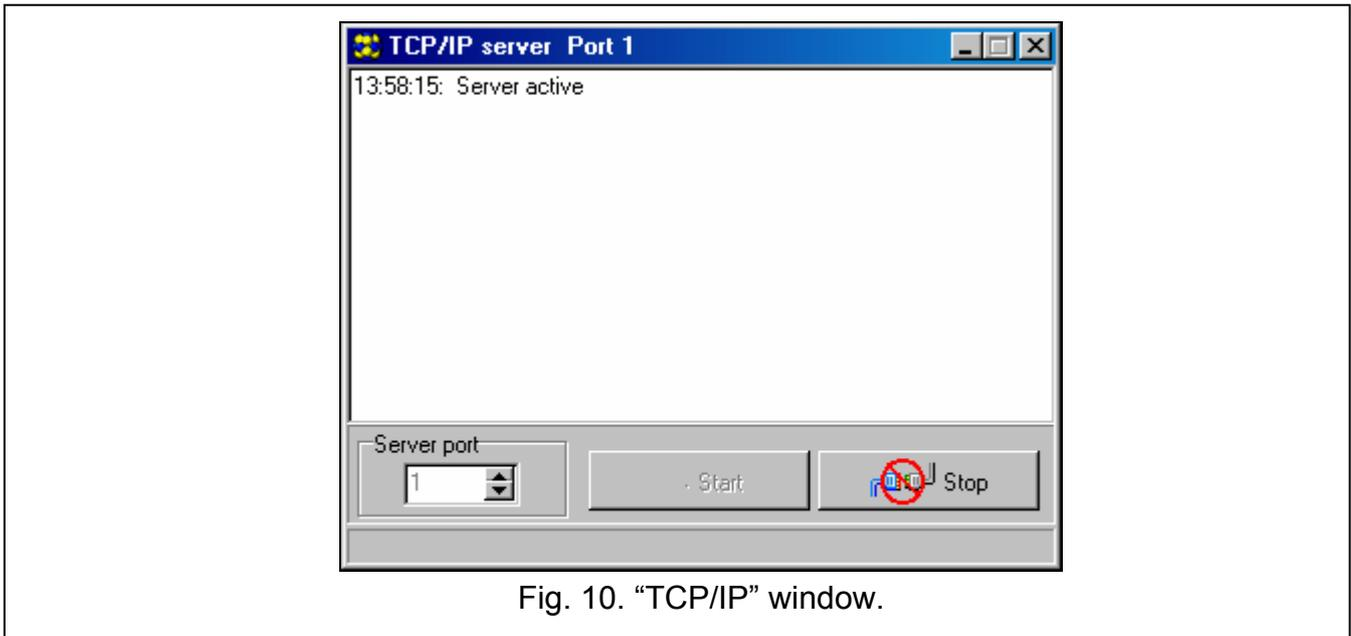

Fig. 10. "TCP/IP" window.
2. Select the "TCP/IP" in the "Communication" menu. A window will open in which information on server activation will be displayed (see: Fig. 10).